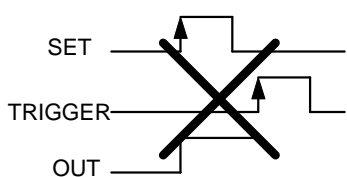

Figure 7
- Do not start TRIGGER operation during setting operation (see Figure 7). When starting TRIGGER operation during setting operation, reset the S-8081B before TRIGGER input.